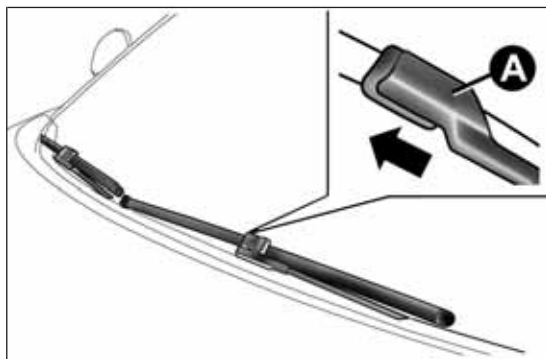

fig. 172
- raise the wiper arm, press tab A fig. 172 of the attachment spring and remove the blade from the arm;